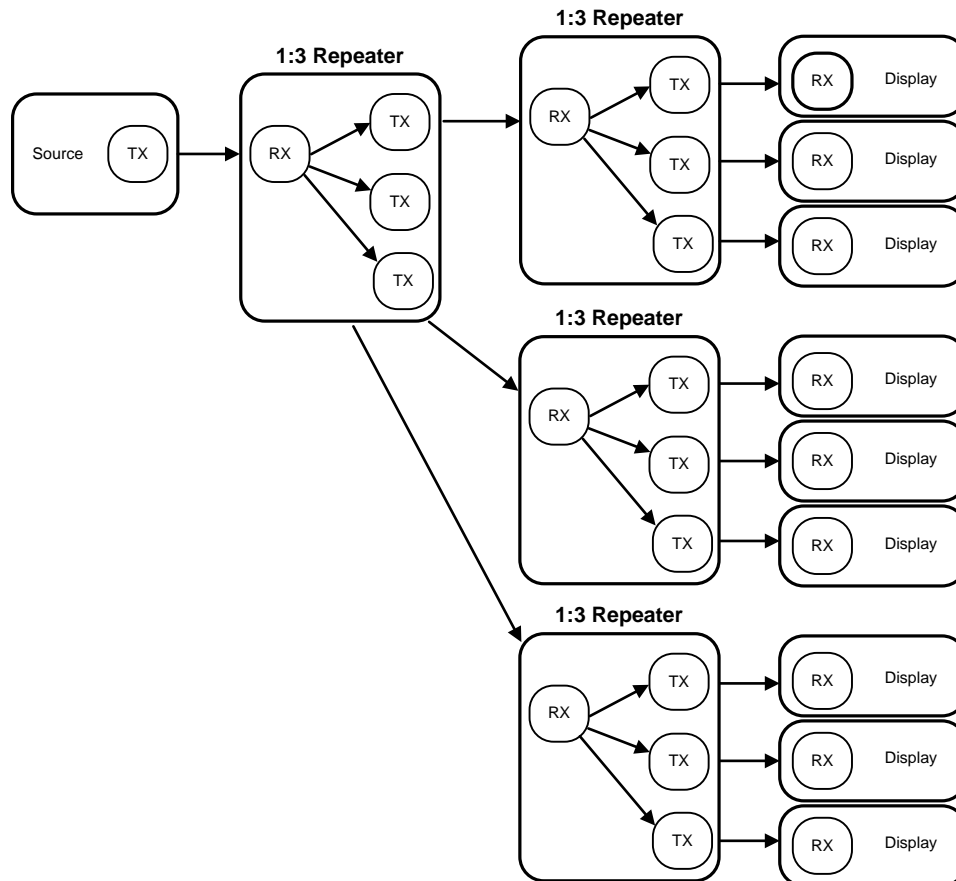

Figure 16. HDCP Maximum Repeater Application
In HDCP repeater application, In this document, the DS90UH925Q-Q1 is referred to as the HDCP Transmitter or transmit port (TX), and the DS90UH926Q-Q1 is referred to as the HDCP Receiver (RX). Figure 16 shows the maximum configuration supported for HDCP Repeater implementations using the DS90UH925Q-Q1 (TX) and DS90UH926Q-Q1 (RX). Two levels of HDCP Repeaters are supported with a maximum of three HDCP Transmitters per HDCP Receiver.